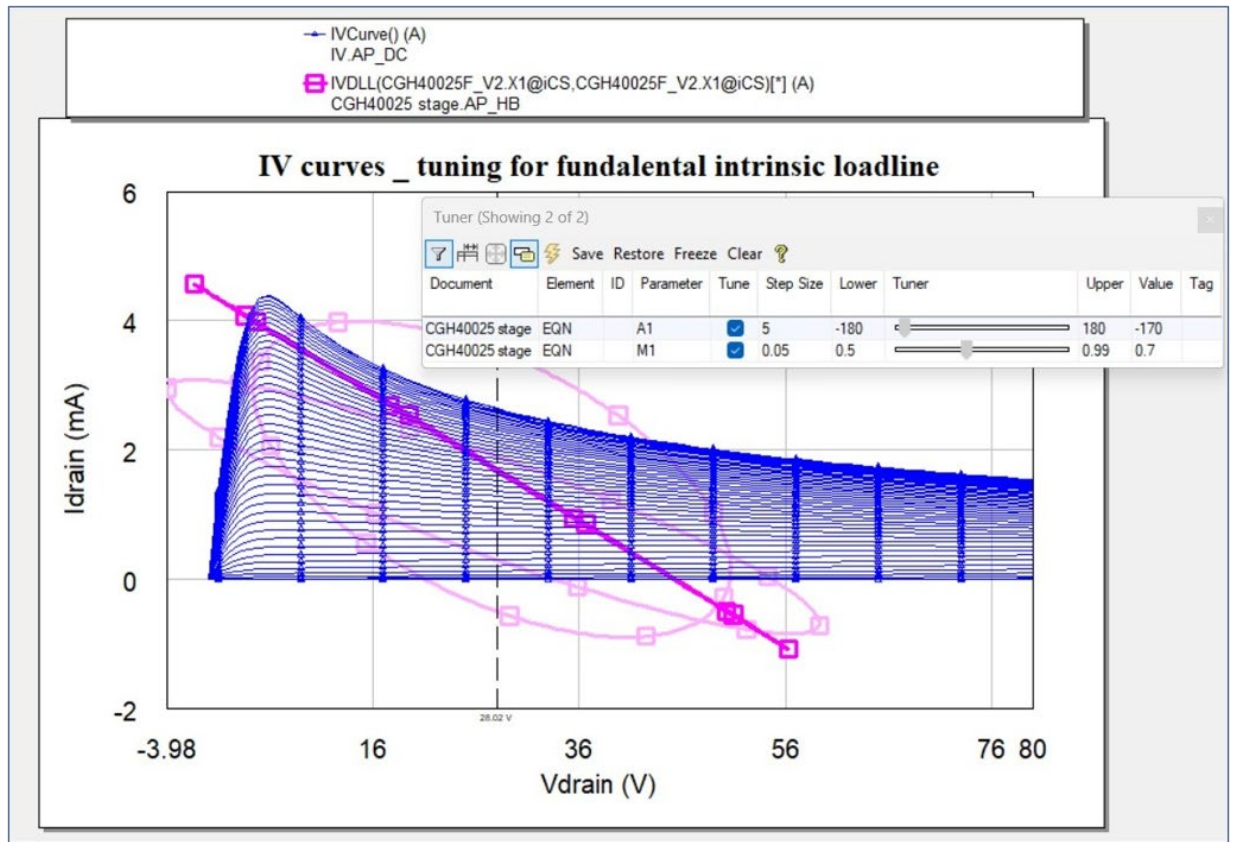

Figure 7
7. Using the Tuner, tune the fundamental frequency load-line as shown in the Figure 7, using enough power to expand it beyond the IV curves boundaries.
2. Tune for maximum power to provide an intrinsic impedance to the intrinsic generator for Class-B. Although not possible to visualize it, it will be by necessity, by the law of nature, as was shown in Figure 7.